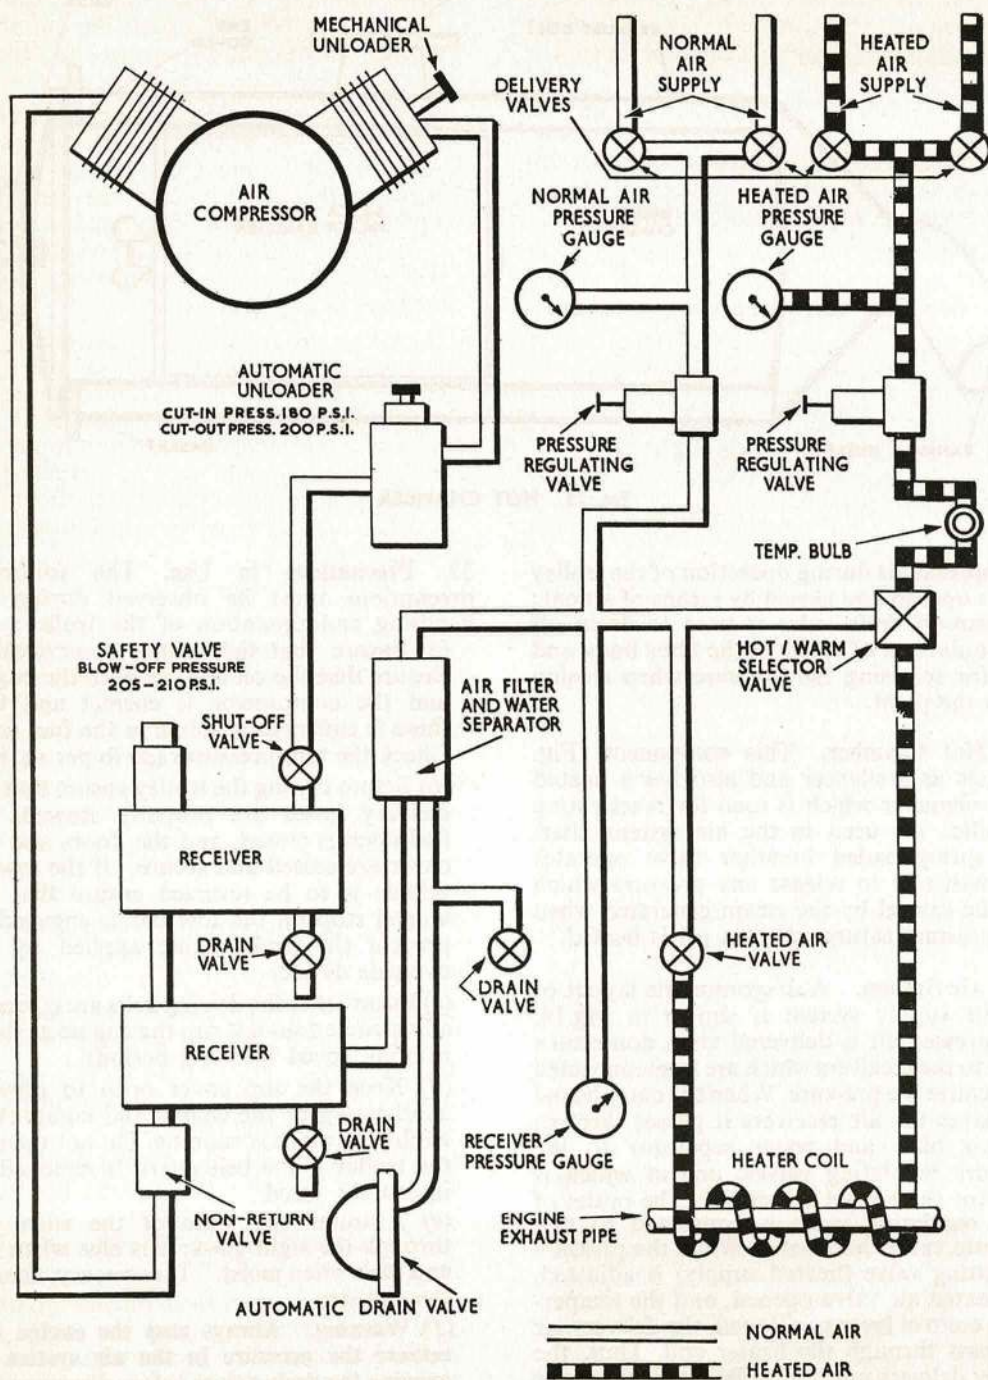

Fig. 14. AIR SUPPLY SYSTEM
31. Air System. A diagrammatic layout of the air supply system is shown in Fig. 14. Compressed air is delivered via a non-return valve to the receivers which are interconnected to equalize the pressure. When the compressed air leaves the air receivers it passes through the air filter and water separator to the pressure regulating valves, one of which is used for the heated air supply. The outlet of each regulating valve is connected to two separate valves and hoses. When the pressure regulating valve (heated supply) is adjusted, the heated air valve opened, and the temperature control lever positioned, the delivery air can pass through the heater coil. Thus, the trolley delivers up to four feeds of cold air or two of cold and two of heated air to a maximum pressure of 200 lb per sq. in.